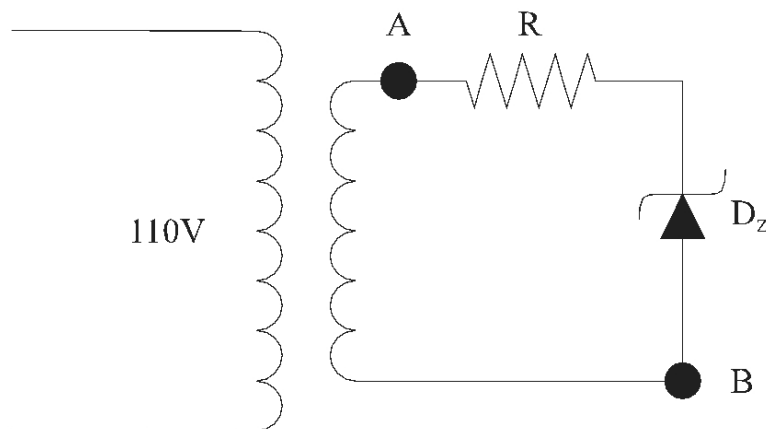

Figure 7-3-1. Zener diode amplification circuit.
1. Assemble the circuit shown in figure 7.3.1
2. Using an oscilloscope, observe the characteristics (waveforms) in the resistor, the Zener diode, and at points A and B shown in figure 7.3.1.